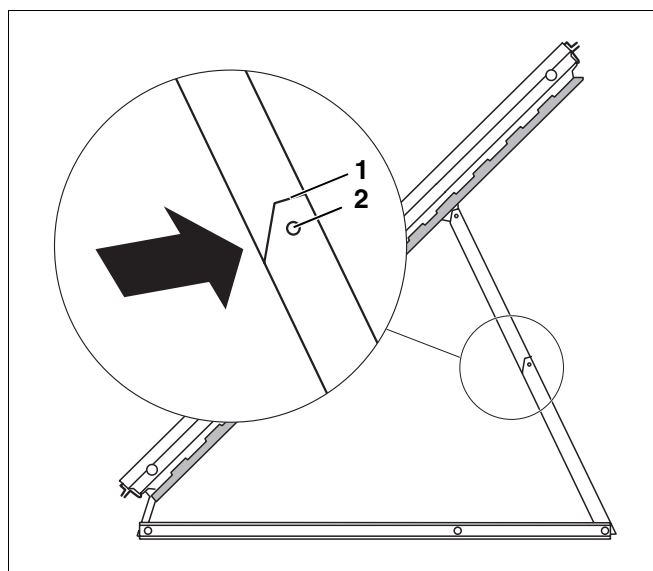

Fig. 15 Shortening the collector braces
If you require a shorter brace, you should shorten the collector support using the markings provided for this purpose on the braces (see detail Fig. 15).
- Cut the braces at the markings using a hacksaw (Fig. 15, **Item 1**).
- Then position the head into the drilled hole provided (Fig. 15, **Item 2**).